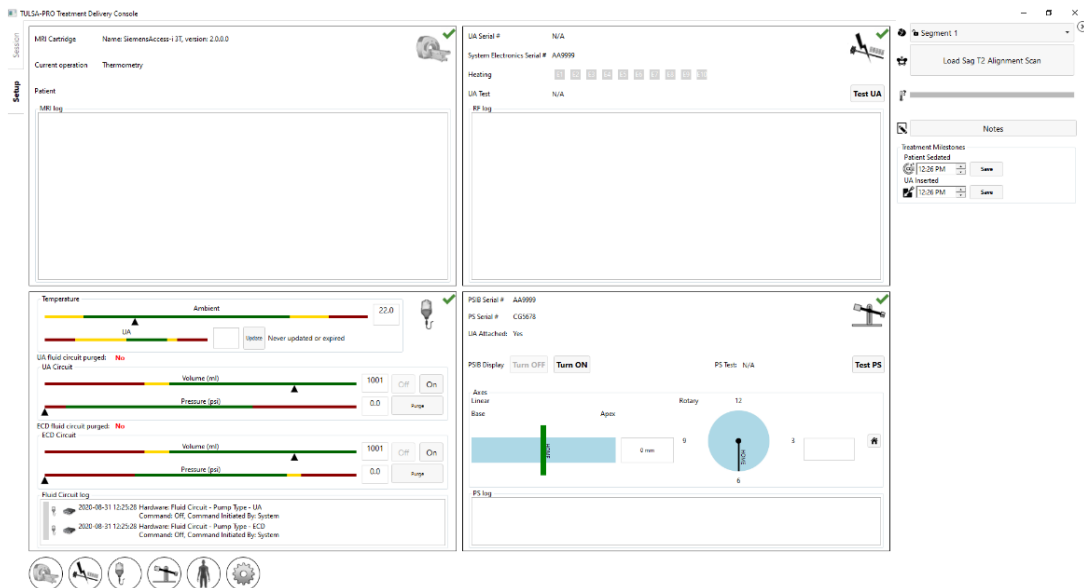

Figure 5: Setup workspace of the TDC software
2. After selecting **New Session**, you will enter the **Setup** Workspace (Figure 5) where you can ensure all equipment is functioning properly before proceeding. A green checkmark will appear in the MRI quadrant of the Setup Workspace if the TDC computer and MRI host can communicate with each other, and a patient is currently open with the TULSA-PRO® MRI sequence protocol on the MRI console.